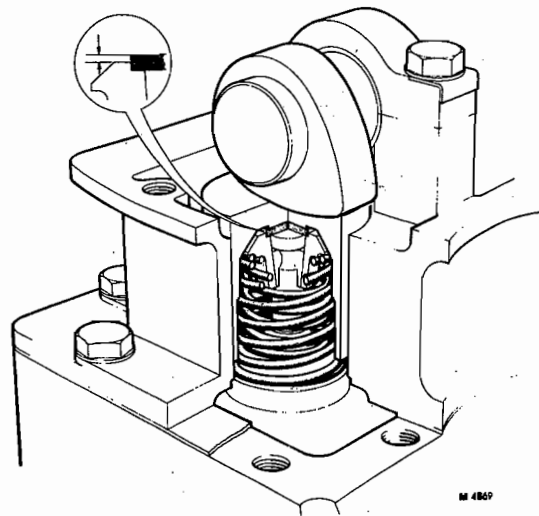

FIG. 2 ADJUSTING WASHER LOCATION
**Note:** Before refitting tappets check that the smallest size adjusting washer stands proud of valve spring collar when placed in position. Fig. 2.